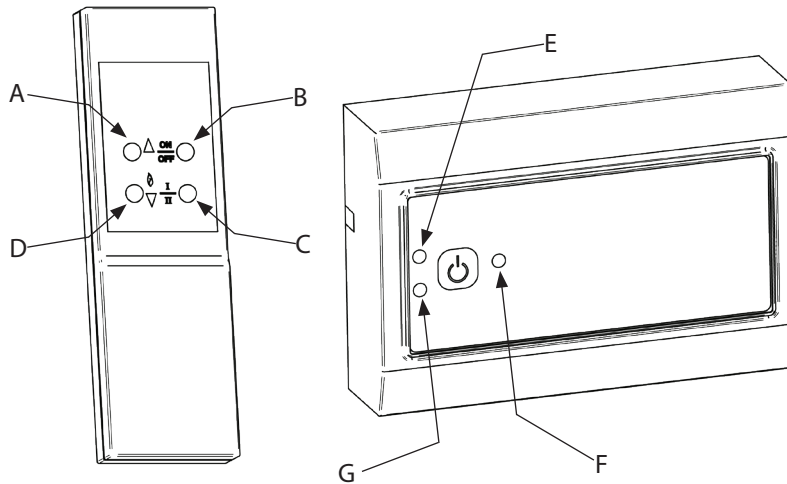

Fig.12
- Press ON/OFF button (Fig. 12-B) and the Burner button (Fig. 12-D) for at least a second to ignite the fire.
- Operating LED (Fig. 12-E) will flash GREEN until the correct chimney draught is achieved. If the LED flashes YELLOW, then the Air inlet must be opened and the fire will ignite.
- If it is available, then the flame HIGH/LOW function can be selected using the HIGH/LOW button (Fig. 12-C). The operating LED will blink once for LOW and twice for HIGH.
- To switch off press the ON/OFF button again (Fig. 12-B).
- The ventilation function can be activated by pressing the ON/OFF button on the remote control (Fig. 12-B) for five seconds. The operating LED will be YELLOW when the function is active.
- Press the ON/OFF button (Fig. 12-F).
- The operating LED (Fig. 12-E) will flash GREEN until the correct chimney draught is confirmed. If it flashes YELLOW, then the Air inlet must be opened. The operating LED will then become GREEN and the fireplace can be lit.
**Operating LED (Fig. 12-E)**
**Alarm LED (Fig. 12-G)**
If the alarm LED (Fig. 12-G) activates during operation, press the ON/OFF button twice to stop the fan and restart the controller. If the alarm LED remains on after reset, please refer to the "Troubleshooting" section.
Press the ON/OFF button (Fig. 12-F) for at least four seconds to increase the fan's operating speed. If the controller is switched off, the fan speed will be reset.